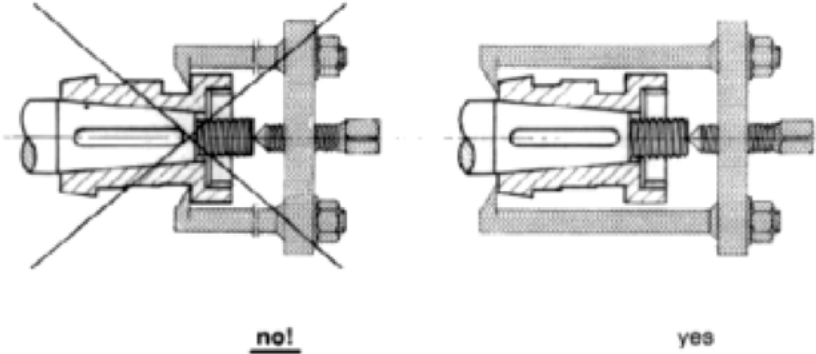

Fig. 9
- 7) **PROPELLER REMOVAL:** In order to remove the propeller you must first remove the spinner and nut. Be sure only to pull from outside the hub (figure 9). If the surfaces on the hub are hit or dinged it can effect the performance of the propeller.